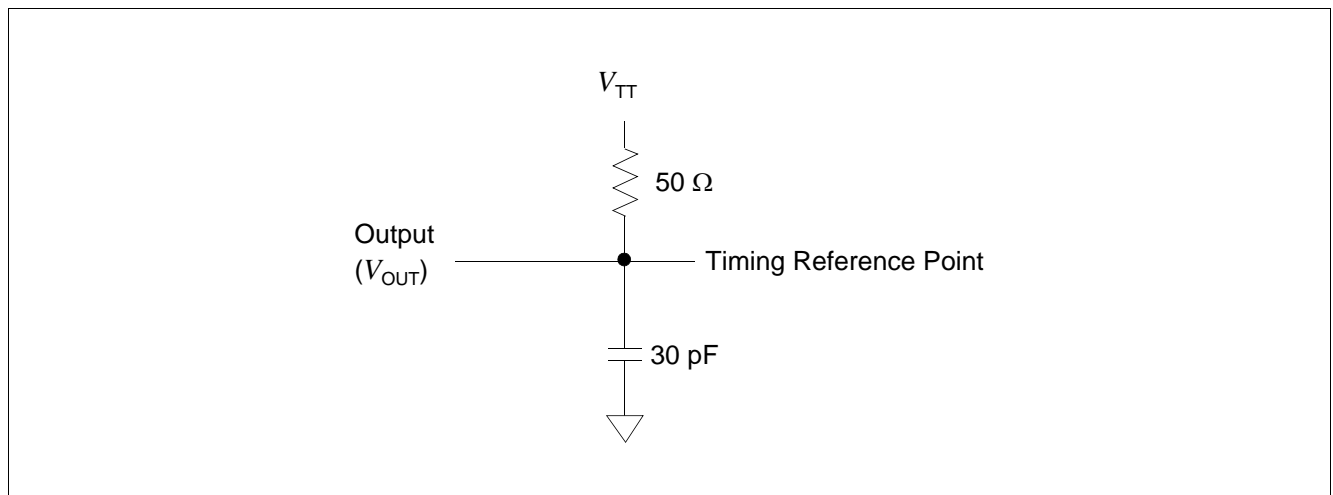

Figure 36 AC Output Load Circuit Diagram / Timing Reference Load
3. **Figure 36** represents the timing reference load used in defining the relevant timing parameters of the part. It is not intended to be either a precise representation of the typical system environment nor a depiction of the actual load presented by a production tester. System designers will use IBIS or other simulation tools to correlate the timing reference load to a system environment. Manufacturers will correlate to their production test conditions (generally a coaxial transmission line terminated at the tester electronics).